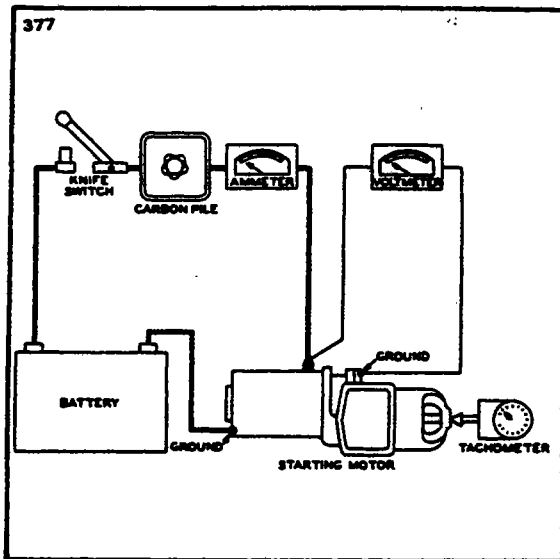

Figure 11-51. No-Load Test Hook-up
a. After the starting motor is reassembled, it should be tested to see that the no-load current at a certain voltage is within specifications as given in paragraph 11-108. To make this test, connect as shown in Figure 11-51. If current is too high, check the bearing alignment and end play to make sure there is no binding or interference. Two or three sharp raps on the frame with a rawhide hammer will often help to align the bearings and free the armature.